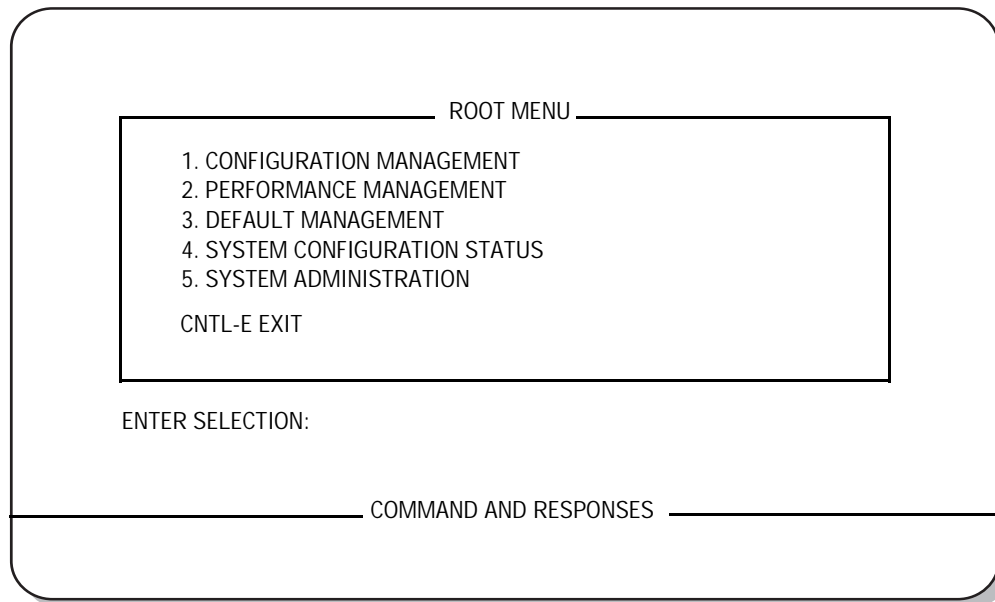

Figure 33. Root Menu
- Figure 33 shows the Root Menu for the multiplexer unit.
2	Type a valid password to display the Root menu (Figure 33 on page 60). The default password is <code>publ ic</code> . PairGain recommends that you edit the default password for security. The password can be up to 30 characters with no spaces. See the System Administration submenu, selection 1 in Table 13 on page 67 .